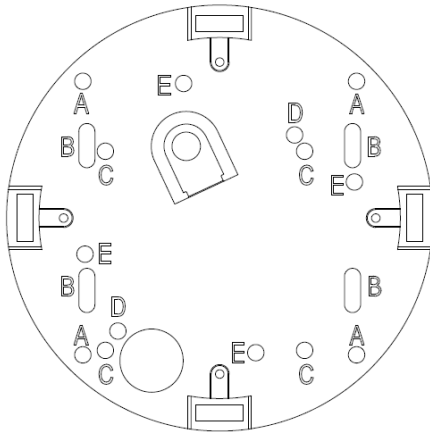

Figure 1: Attach the mounting plate to common electrical box
2. Attach the mounting plate to the user supplied electrical box as shown in Figure 1.